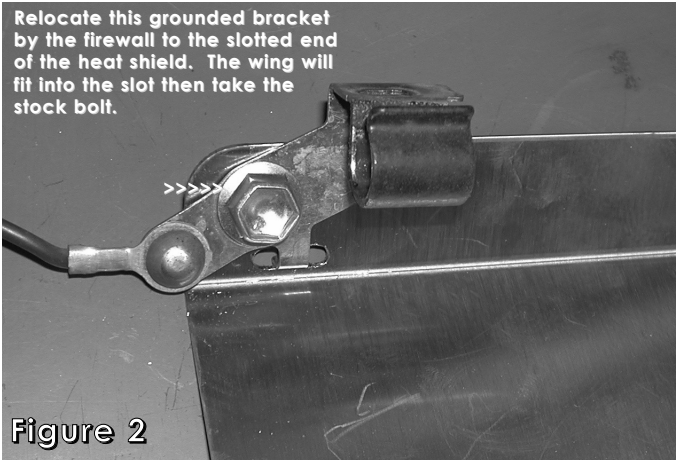

Figure 2
- 2- Use an m14 socket to remove the bolt on the engine block by the firewall. Take the bracket holding the harness and place it on the slotted end of the heat shield. (See fig. 2)